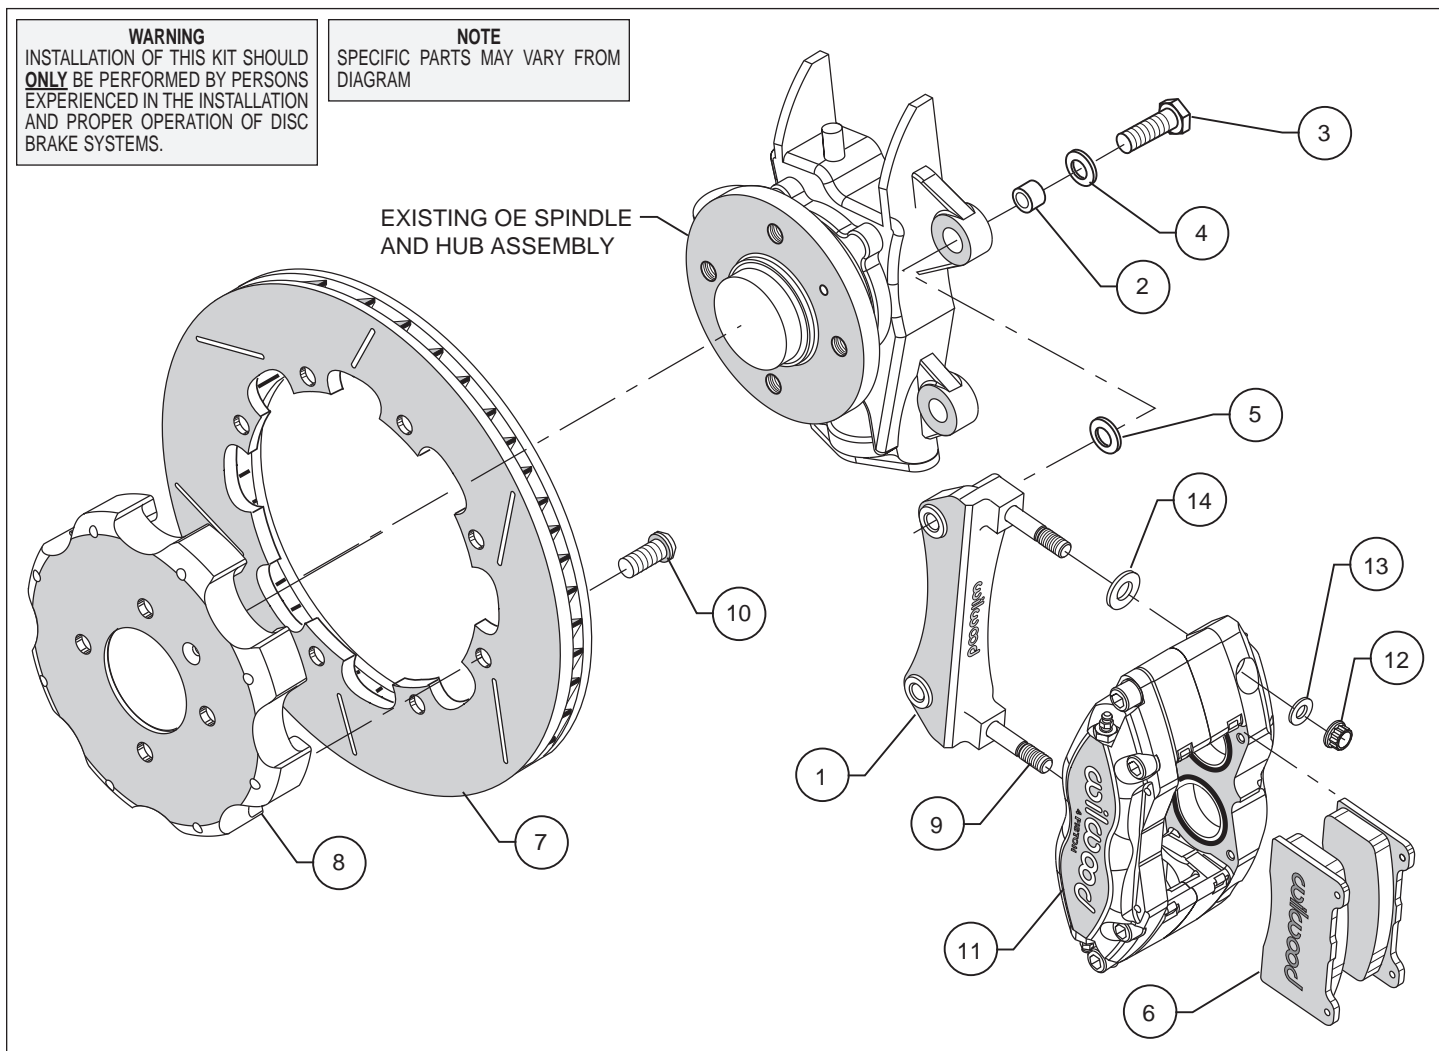

Figure 1. Typical Installation Configuration
- Insert one sleeve (2) each into the holes on the top and bottom of the spindle “ears” where the OEM caliper bracket was removed. The caliper mounting bracket assembly (1) should be installed first with clean, dry threads on the mounting bolts. Install the bracket from the rear side of the spindle by sliding bolts (3) through flat washer (4). Place shim washer (5) between the bracket (1) and the spindle (see Figure 1). The bracket must tighten squarely against the side of the spindle body. Inspect for interference from casting irregularities, machining ridges, burrs, etc. Use one thin shim (5) between the bracket and spindle during initial trial fitting.
- With the larger I.D. side of the rotor (7) facing away from the hat (8), attach rotor (7) to hat (8) using bolts (10) as shown in Figure 1. Using an alternating sequence, remove bolts (10) one at a time, apply red *Loctite*® 271 to the threads, and torque to 25 ft-lb.
- NOTE:** *Please reference the caution statement at the beginning of the assembly instructions.* Install one shim (14) over each pre-installed stud (9) on the radial mount bracket (1). Slide the caliper (11) in place over the studs and rotors and install the washer (13) and lock nut (12) to hold the caliper in place. Snug the lock nuts (12) and check that the rotor (7) is centered in the caliper (11). Add or subtract .016" shims (5) as necessary between the bracket (1) and the spindle to center the caliper (11).
- Remove the caliper quick-clip pad retainer from the caliper. Slide the brake pads (6) into place. They should install easily without interference. Check that the outside radius of the brake pad is aligned with the outside diameter radius of the rotor face. Add or subtract shims (14) between the caliper and mount bracket to gain the proper alignment. Reinstall the quick-clip pad retainer.
- Once all clearances have been checked, remove the wheel, caliper, hat, and rotor from the spindle and hub. Secure the caliper mounting bracket (1) to the spindle with bolt (3) using red *Loctite*® 271. Torque the bolts to 60 ft-lbs. Reinstall the hat and rotor assembly and again use several wheel bolts to hold it in place. Lubricate caliper mounting studs and nuts with lightweight oil, reinstall the caliper, torque the caliper nuts (12) to 30-35 ft-lb.